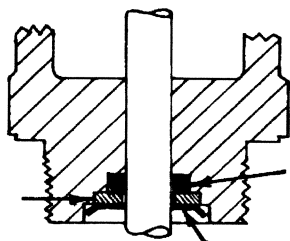

Fig. 8
1. Loosen locknut (7). Remove adjusting sleeve (1) and thermostatic element (20) from bonnet (10).
2. Place pin in hole provided in valve stem (8). Remove valve stem screw (3) thereby freeing yielding springs inner (5) and outer (4), top spring seat (2) and intermediate spring seat (6) and valve spring (18). Note: In the case of Classes M, MK, MR and MRK the valve springs are contained within the main body. As valve stem screw (3) clears the valve stem (8) hold spring seat and springs to prevent them from jumping away. Remove bottom spring seat (25). This part is also eliminated from regulators which have the valve spring in the main body assembly.
3. Remove bonnet (10) and bonnet gasket (26) from main body (15). Slide valve stem (8) out of the bonnet. Remove old stem seal per instruction 4 and Fig. 8. Clean all parts thoroughly. Do not scratch or mar Teflon coating.
4. At this point renew any worn or damaged part. Replace valve stem (8) in bonnet (10).
To install "O" ring seal moisten "O" ring with lubricant and place in counterbore in bonnet. Insert gland ring in its recess in bonnet then press lockring in place (firmly against gland ring) and with prongs positioned as shown in Fig.8.
9. Loosen and remove bottom cap (19) and bottom cap gasket (28). Push valve stem down through bonnet until valve disc clears bottom of main body (15). Valve stem and main valve disc are integral. Grasp main valve disc and draw it and valve stem from bonnet and main body. Remove bonnet from main body. Replace Stem Seal as shown in Fig. 8.
10. Insert valve stem (8) through main body (15) and into position in bonnet (10). Reassemble bonnet parts as shown in Steps "4" through "7". Replace bottom cap gasket (28) and bottom cap (19). Tighten.